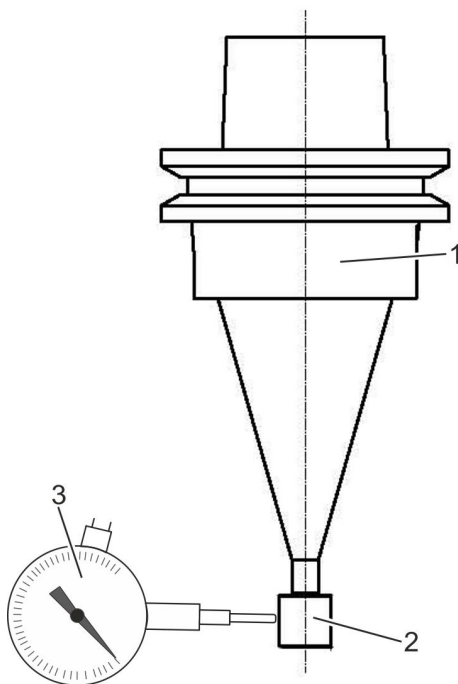

Fig. 62: Calibration tool
15. ➔ Use the dial gauge to check the true-running accuracy at the cylinder radius (Fig. 62/2).